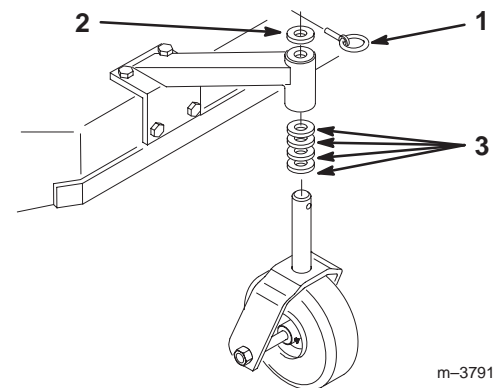

Figure 25
- Using the Height-of-Cut Chart (on page), adjust the caster spacers to match with the axle hole selected (Fig. 25).
- Remove the clevis pin, slide the caster from the support, and change the spacers (Fig. 25).
- Install the caster in the support and insert the clevis pin (Fig. 25).